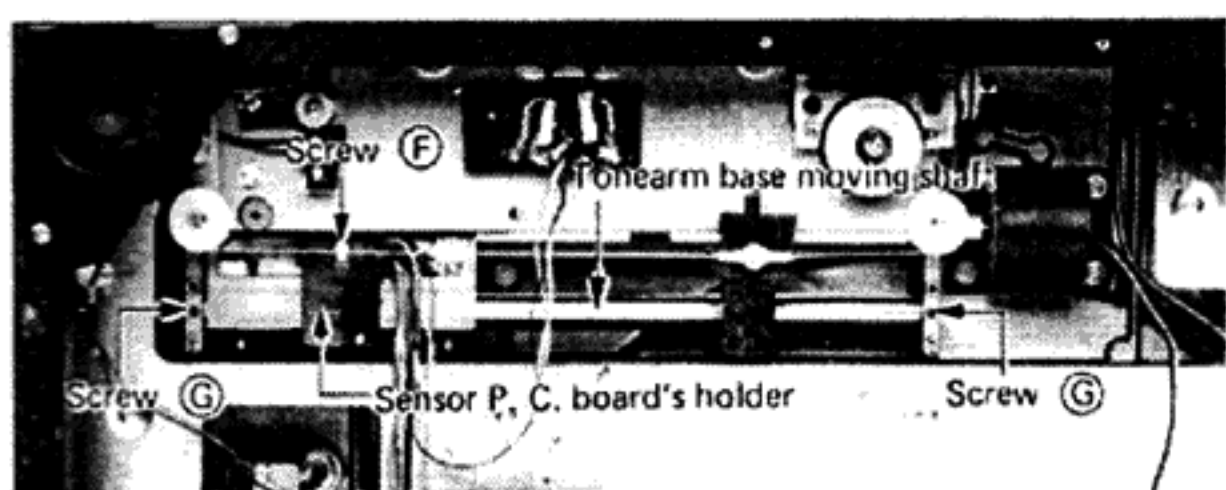

Fig. 3
- 8) Unscrew screw (F) shown in Fig. 3 and detach the sensor P. C. board's holder. (For assembly, refer to "ASSEMBLY PRECAUTIONS - 4".)
- 9) Using a hexagon wrench (1.5mm) loosen the two screws (G) shown in Fig. 3, and draw the tonearm base moving shaft to the extreme right.